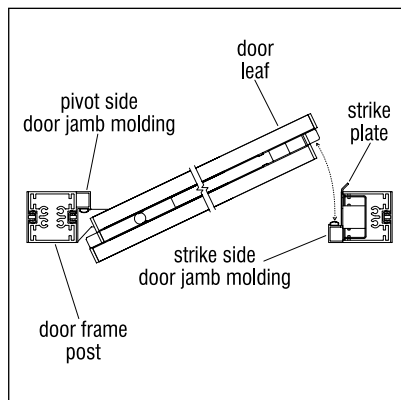

Figure 2 - Top View
2. See Figures 2 and 3 for parts identification.